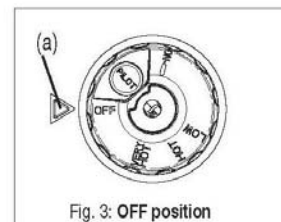
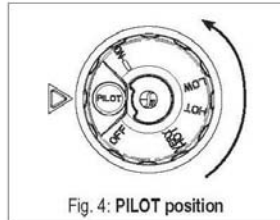
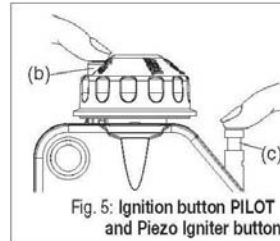

Fig. 3: OFF position
Fig. 4: PILOT position
Fig. 5: Ignition button PILOT and Piezo Igniter button
Note: All knob settings referenced to the reference arrow marks (a) in Fig. 3.
Wait a minimum of (5) five minutes before attempting to re-light the pilot burner after the gas control has been switched to the OFF position and/or the pilot flame has been extinguished. Repeat the pilot ignition sequence starting from the OFF position. (Fig. 3)
Start from the OFF position (Fig.3). Rotate the control knob counter-clockwise  to the PILOT position (Fig.4). Press and hold the ignition button PILOT (b) for thirty (30) seconds or more and simultaneously press several times the Piezo Igniter button (c) to light the pilot flame (Fig.5). Release the ignition button PILOT and make sure that the